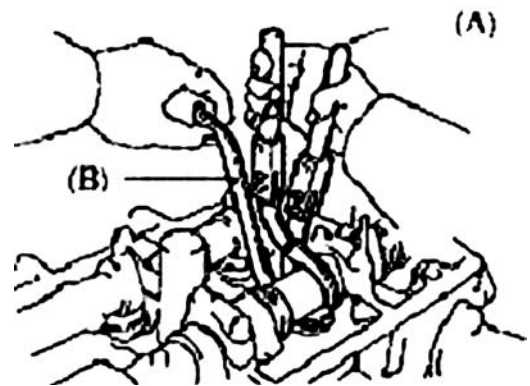

Figure 19
(4) Alternatively press valve tappet with the special tool (A) (B). Check valve clearance. See (Figure 19).